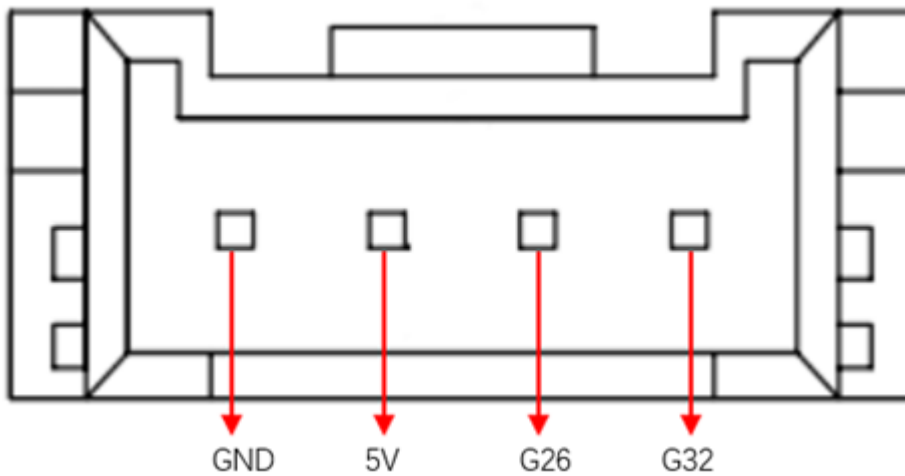

Figure 2-4 Grove port 4
C. Grove interface 4: Figure 2-4 shows the definition of Grove interface 4